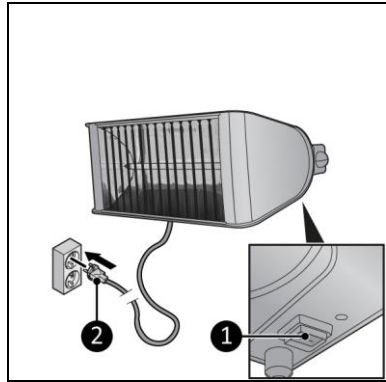

Figure 9
2. Make sure the ON/OFF switch is in the OFF position (Figure 9, pos. 1).
3. Place the power plug (Figure 9, pos. 2) into an earthed wall socket that is easily accessible. Use an earthed wall socket with a minimum power of 2400 Watt.
1. Make sure the ON/OFF switch is in the OFF position (Figure 9, pos. 1).
2. Disconnect the power plug from the power outlet (Figure 9, pos. 2).